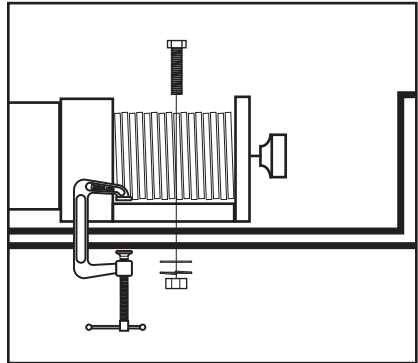

Figure 2. Winch installation.
3. Mount the winch with the included hex bolts, flat washers, lock washers, and hex nuts, as shown in **Figure 2**, and attach the winch hook to the loop at the end of the cable.